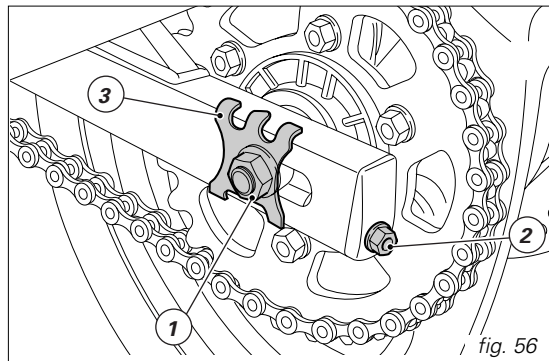

fig. 56
Slacken the nut (1, fig. 56) of the wheel shaft, tighten (turn clockwise) or slacken the screw (2) on either side of the swingarm equally to increase or reduce chain tension. If you are slackening the chain, you will have to push the wheel forward.
Make sure you have adjusted to the same setting marks on both sides of the swingarm. Refer to pointer on slider (3, fig. 56). This will ensure perfect wheel alignment. Grease the thread of the wheel shaft nut (1) with SHELL Retinax HDX2 grease and torque nut to 72 Nm.